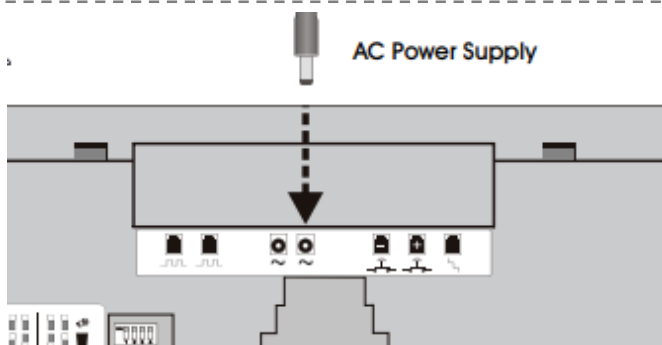

Figure 4
2. Align the holes in the sign and the mounting bracket with the holes in the post. Push the two large slotted bolts through bracket and sign and secure with the provided nuts (Figure 4)